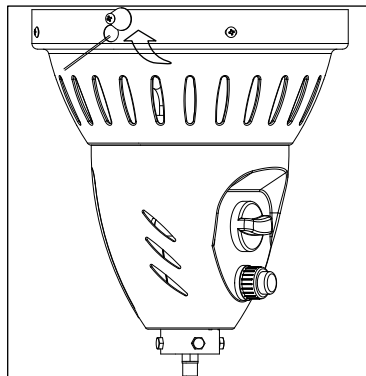

Figure 4
- As you are depressing the control knob, place long stem lighter into the ignition hole on the emitter screen to light the pilot (Figure 4).